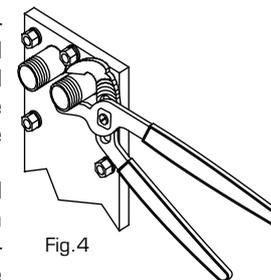

Fig.4
- Threaded nozzles are not welded to the fixed head. To avoid damaging the first gasket, hold the threaded nozzles in place with pliers and screw on the pipes (Fig. 4).